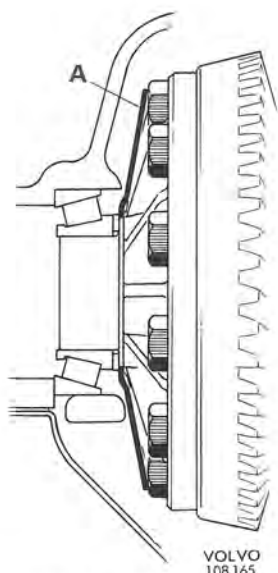

Fig. 4-169. Lock plate (A) for crown wheel bolts
4. Fit the shims on the differential carrier and press on the bearings. Do not forget the lock plate for the crown wheel bolts, see Fig. 4-169.